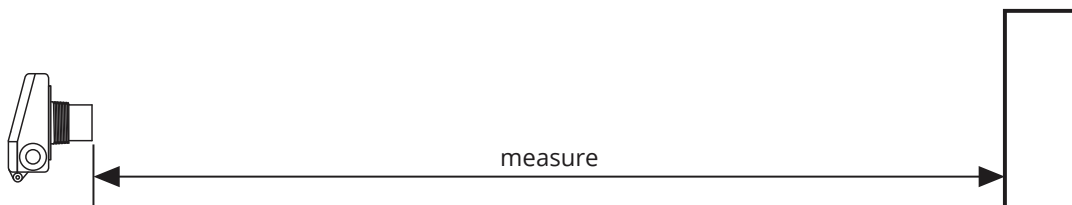

Figure 3.1
- Point the sensor at a target at a known distance near the maximum range of the sensor, 25' for a single solid object (See Figure 3.1).